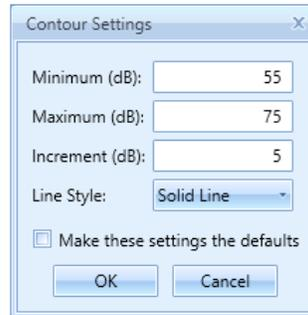

Figure 5-43 Contour Settings Dialog
3. The *Contour Settings* dialog is displayed (Figure 5-43).